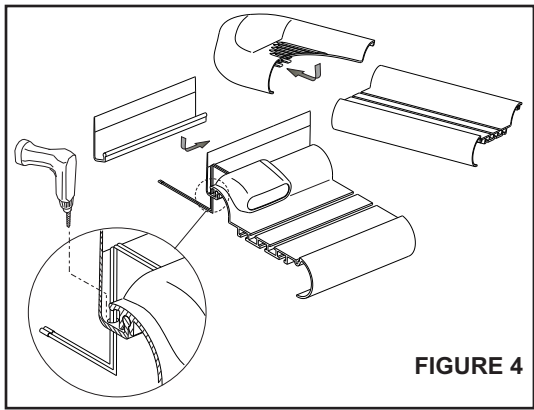

FIGURE 4
- STEP 4. For Sure-Grip Running Boards, slide closure strip as shown. Set lights (if purchased) in appropriate location. Attach to Sure-Grip Running Board as shown. SEE FIGURE 1. Drill hole through plastic strip and run wires as shown. SEE FIGURE 4.